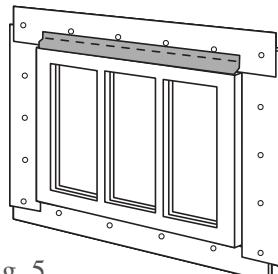

Fig. 5
*Option 1: Window and Door Surround butted to existing window casing.* Install Window and Door Surround new construction starter strip flush to all sides of the window casing (Fig. 5). Starter strip should be cut to the length of each window side or casing, and installed with the lock edge toward the window. Starter locking edge should lightly and evenly contact the window casing for proper securing of Window and Door Surround.